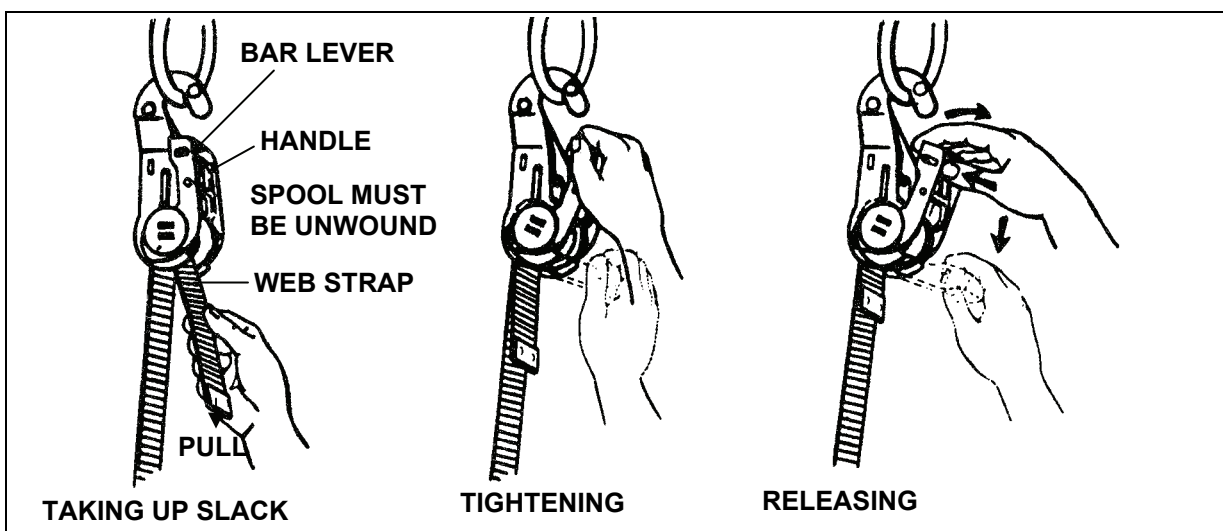

Figure 8-39. CGU-1/B 5,000-Pound Capacity Tiedown Strap
- **Cgu-1/B Cargo Tiedown Strap.** The CGU-1/B 5,000-pound capacity cargo tiedown strap is used to restrain cargo in vehicles and trailers (Figure 8-39). The tiedown strap is also used between the prime mover and towed or tandem loads, such as M998 truck and M101 trailer to prevent the truck and trailer from pivoting in flight. To operate the tiedown strap, attach the fixed hook of the strap to the cargo or over the cargo to a tiedown ring if the cargo does not have tiedown provisions. Then attach the hook and ratchet end to a tiedown. Make sure that the spool on the ratchet is completely unwound. Apply tension by pulling on the end of the webbing that passes through the spool. While holding the webbing, operate the handle with a rocking motion to tighten spool. Do not force with added leverage. To release, depress the release bar handle in while turning handle to the full open position.